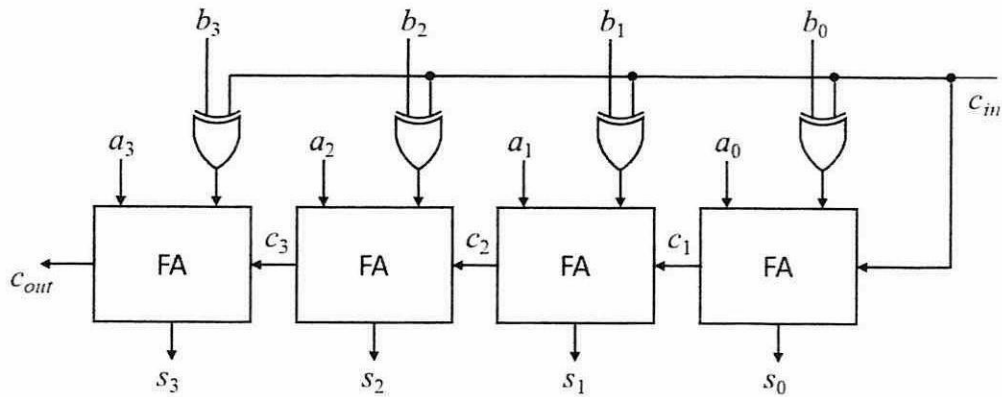

Figure Q3.1
**Q3** **Figure Q3.1** shows an adder-subtractor circuit, where FA is a full adder module. From the figure, answer the following questions: